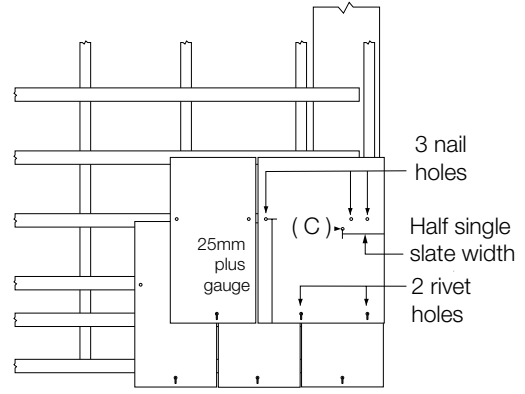

Fig. 9 - Using slate-and-a-half to break bond
- 7 At the verge, install the first full length slate-and-a-half slate, drilling 3 x 4.0mm dia nail holes on the batten line and two additional 4.0mm dia. holes for the copper disc rivets (Fig. 9).
For remaining courses where single and slate-and-a-half slates are used, a third 4.0mm dia. copper disc rivet hole is required to accommodate the rivet for the next single width verge slate (at point C, Fig. 9).